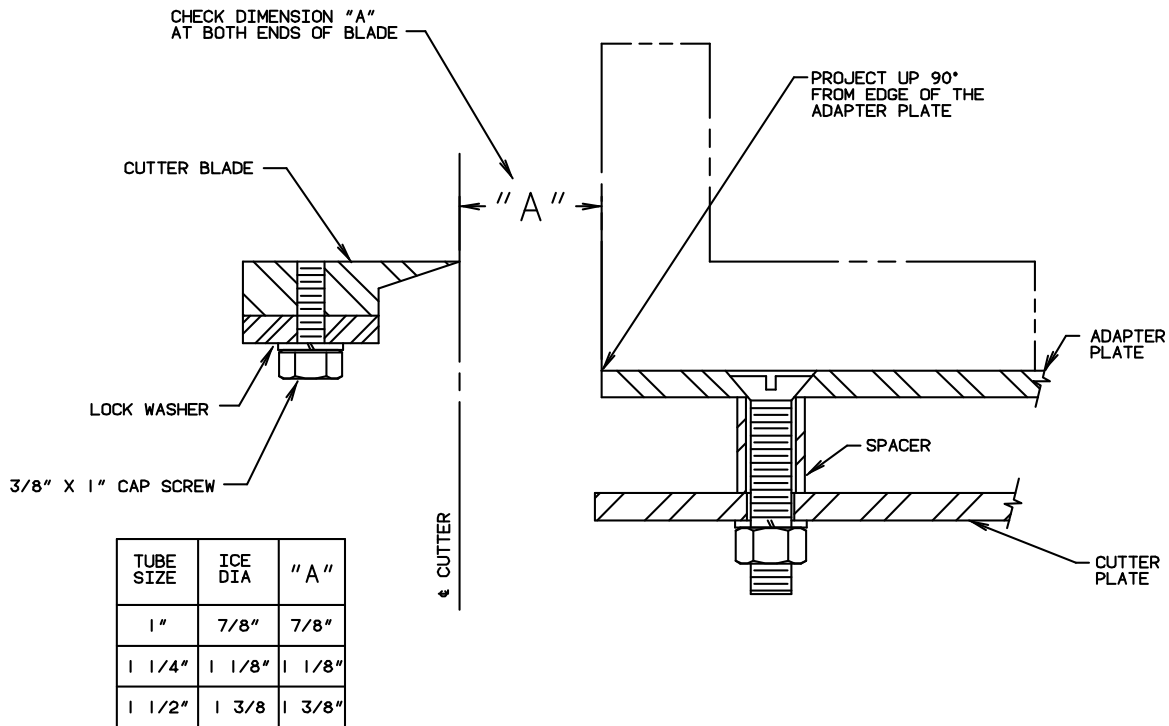

Figure 9-6
4. Refer to FIGURE 9-6, adjust each blade to dimension "A" and lock the blade in position by tightening the 3/8" cap screws. Note: Use a 90° square (as illustrated) to obtain the proper blade clearance required for satisfactory ice discharge. Dimension "A" is critical and should be measured at both ends of the blade. Note: 3/8" x 1" cap screw must be flush with cutter blade.
2. Locate the new adapter plate, holding the correct dimension "A" from the edge of the plate to the edge of the blade. See Figure 9-6.